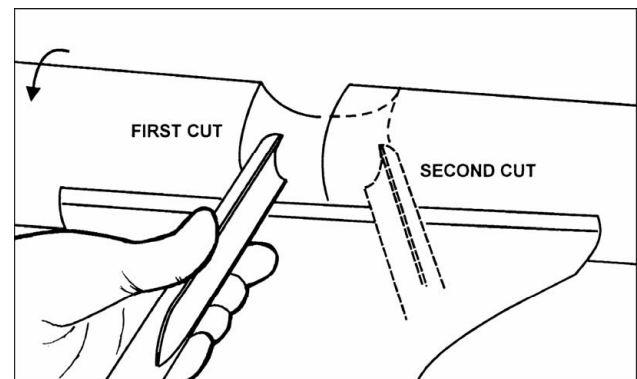

Fig. 18
3. With the flute facing the opposite direction, repeat step 1 for other side of cove. Stop at the bottom of the cut; see Figure 18.